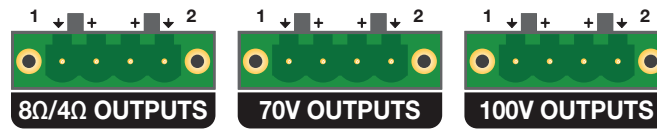

Figure 17. Speaker Output Connectors
- H Speaker Outputs** — Wire the included 5 mm, 4-pole screw lock captive screw connector to output audio. Observe the correct polarities for each channel (see figure 17).